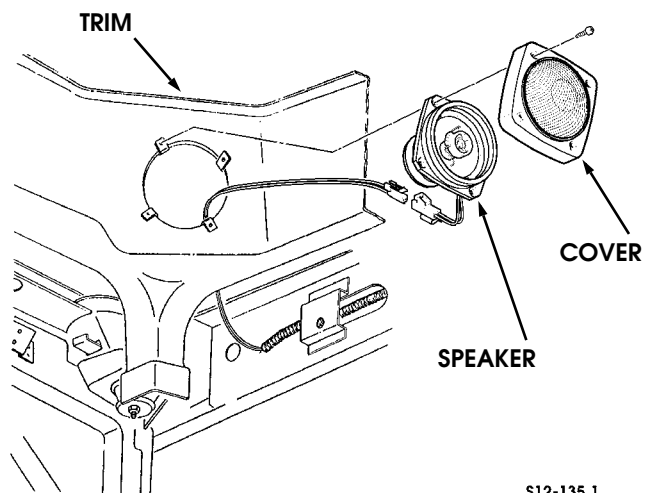

Figure 12-114.7: Right Front Speaker Models 83 & 84.
3. Remove four screws, clips, cover, and right front speaker from trim (Figure 12-114.7).
8. Connect two leads to right front speaker (Figure 12-114.7).